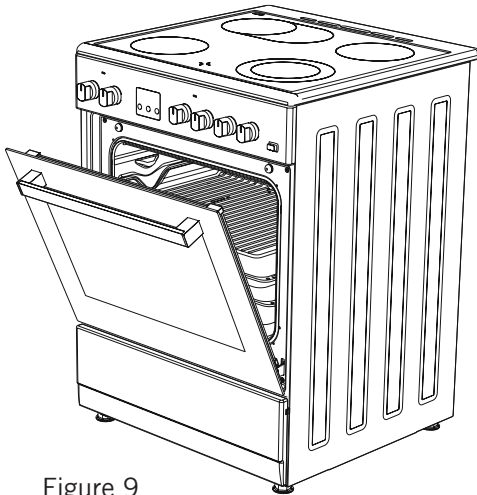

Figure 9
3. Place the safety panel under control panel by opening the oven front cover glass (Figure 9)